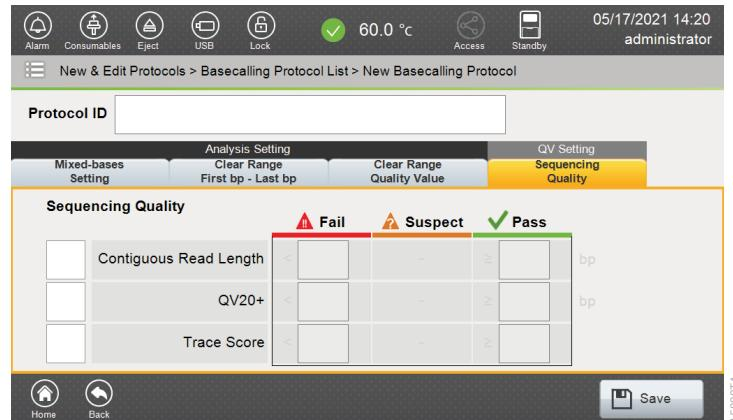

Figure 126. 'Sequencing Quality' tab.
Sequencing Quality	<p>Defines the CRL, QV20+ and Trace Score values for passing and failing data (Figure 126). Data that fall between these values will be flagged as "Suspect" (data should be manually reviewed in 'Result' tab to determine whether or not it is acceptable to the user or requires reinjection). See 'Result' Tab in Section 5.7 for definition of CRL, QV20+ and Trace Score.</p> <p>Minimum and maximum values allowed by software for CRL are 1bp and 800bp, respectively. The value entered in the 'Fail' field must always be less than the 'Pass' field.</p> <p>Minimum and maximum values allowed by software for QV20+ are 1bp and 800bp, respectively. The value entered in the 'Fail' field must always be less than the 'Pass' field.</p> <p>Minimum and maximum values allowed by software for Trace Score are 1 and 60, respectively. The value entered in the 'Fail' field must always be less than the 'Pass' field.</p>
8. Select the 'Sequencing Quality' tab to reveal the default settings for minimum passing and maximum failing CRL, QV20+ and Trace Score values (Figure 126). Select which parameters to use for assessing sequencing quality by checking the appropriate box to the left of the CRL, QV20+ and Trace Score parameters.